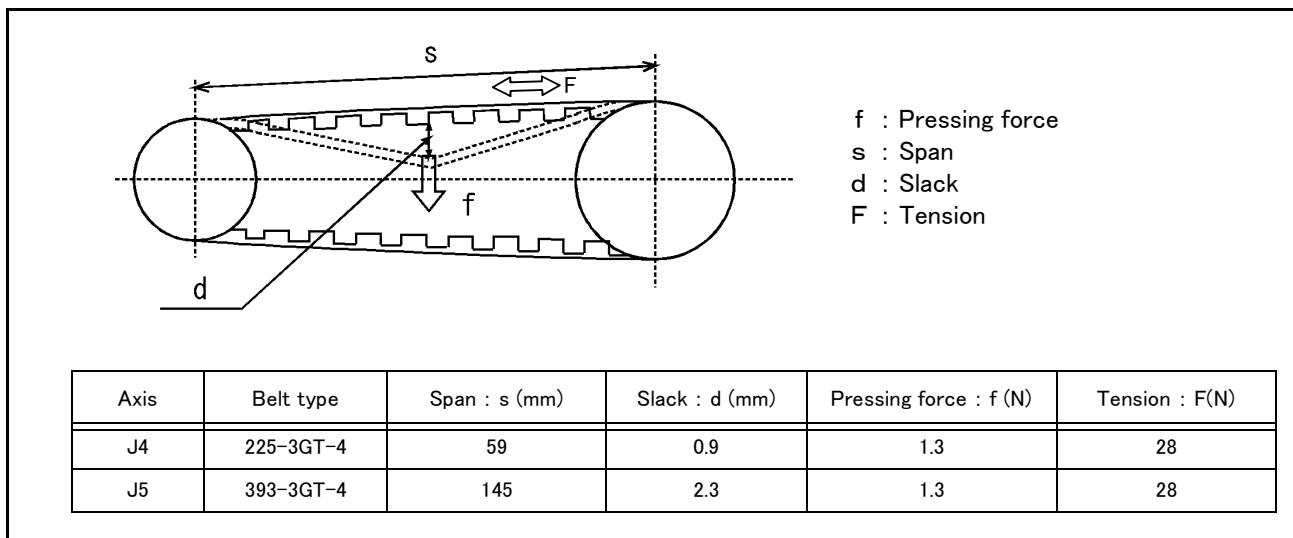

Fig.5-8 : Belt tension
- 3) Visually confirm that the symptoms indicated in "(1) Timing belt replacement period" have not occurred with the timing belt.
- 4) Confirm that the belt tension is adjusted to slacken approx. 0.9mm when the center of the belt is lightly pressed with a finger (approx. 1.3N) as shown in "Fig.5-8 : Belt tension".
- 4) Confirm that the belt tension is adjusted to slacken approx. 2.3mm when the center of the belt is lightly pressed with a finger (approx. 1.3N) as shown in "Fig.5-8 : Belt tension".
The detailed adjustment (tension) is shown in Fig. 5-8.